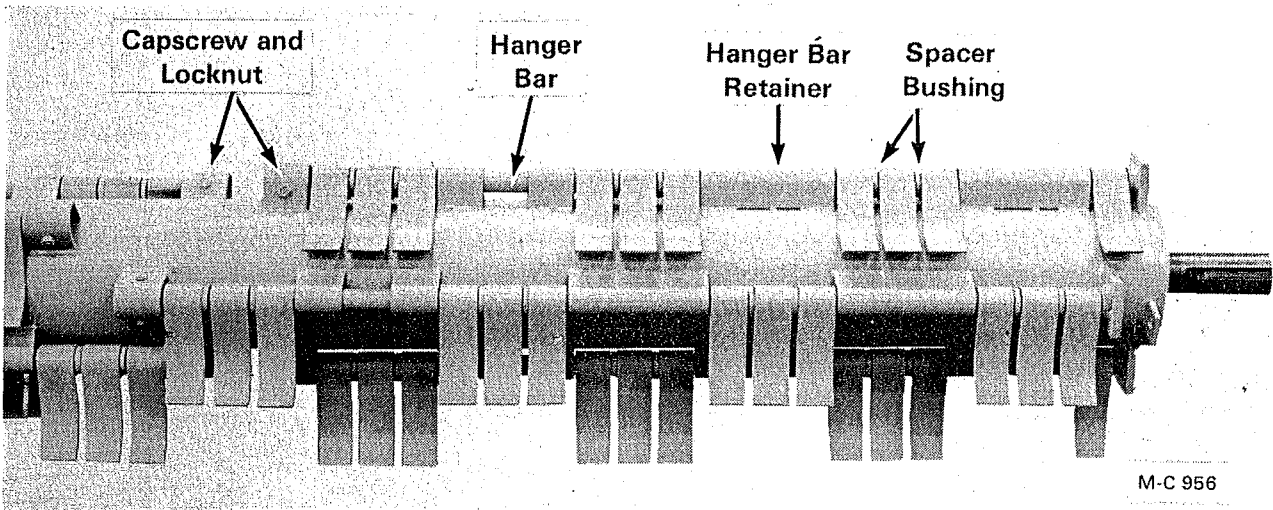

Figure 23 - TC Models
1. Remove the capscrew and locknut from one hanger bar retainer, see Figure 23.
- B. Two spacer bushings go between each set of three knives, see Figure 23.